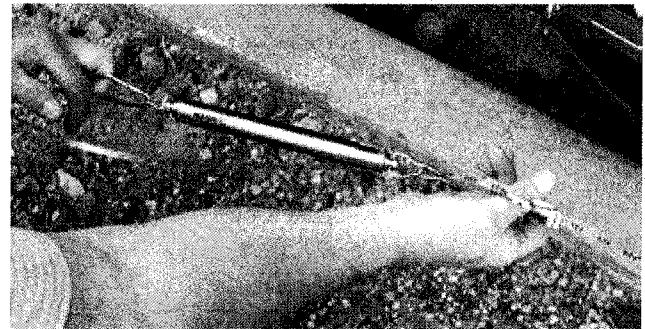
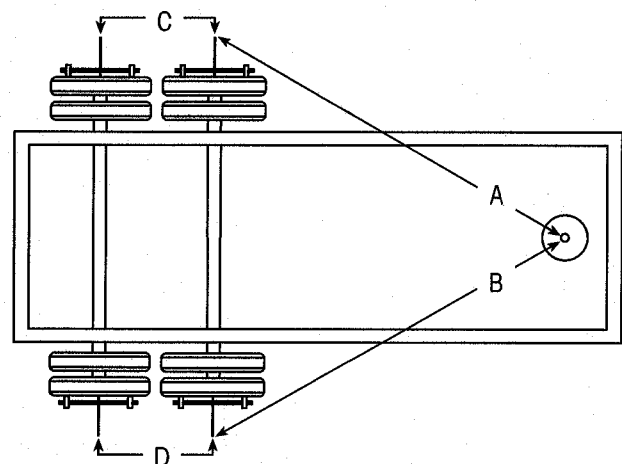
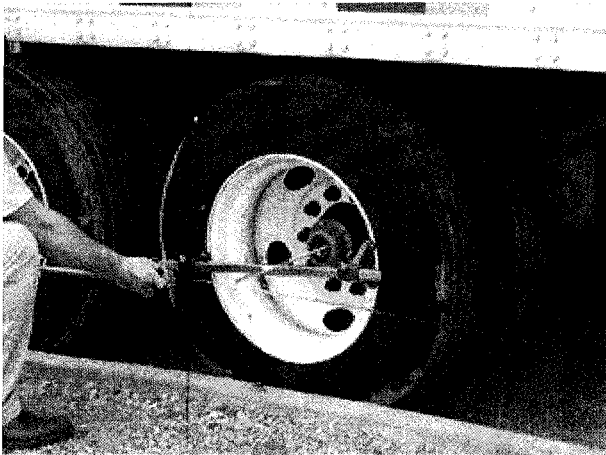

Figure 23: Using tape tension device (fish scale)
Figure 24: Axle alignment measurements
Figure 25: Measuring the "A" and "B" distances
5. Hook a steel measuring tape (50 ft. min.) to the kingpin adapter (or kingpin extender). Holding the measuring tape with the tape tensioning device (Figure 23), measure the distances "A" and "B" from the kingpin to the wheel-end extender pointer on each end of the front axle (Figure 24 and Figure 25).
12. Using a trammel bar or a 12-foot tape measure with $1/32$ in. or millimeter increments, measure the distances "C" and "D" from the front axle center to the rear axle center (Figure 24 on page 11).